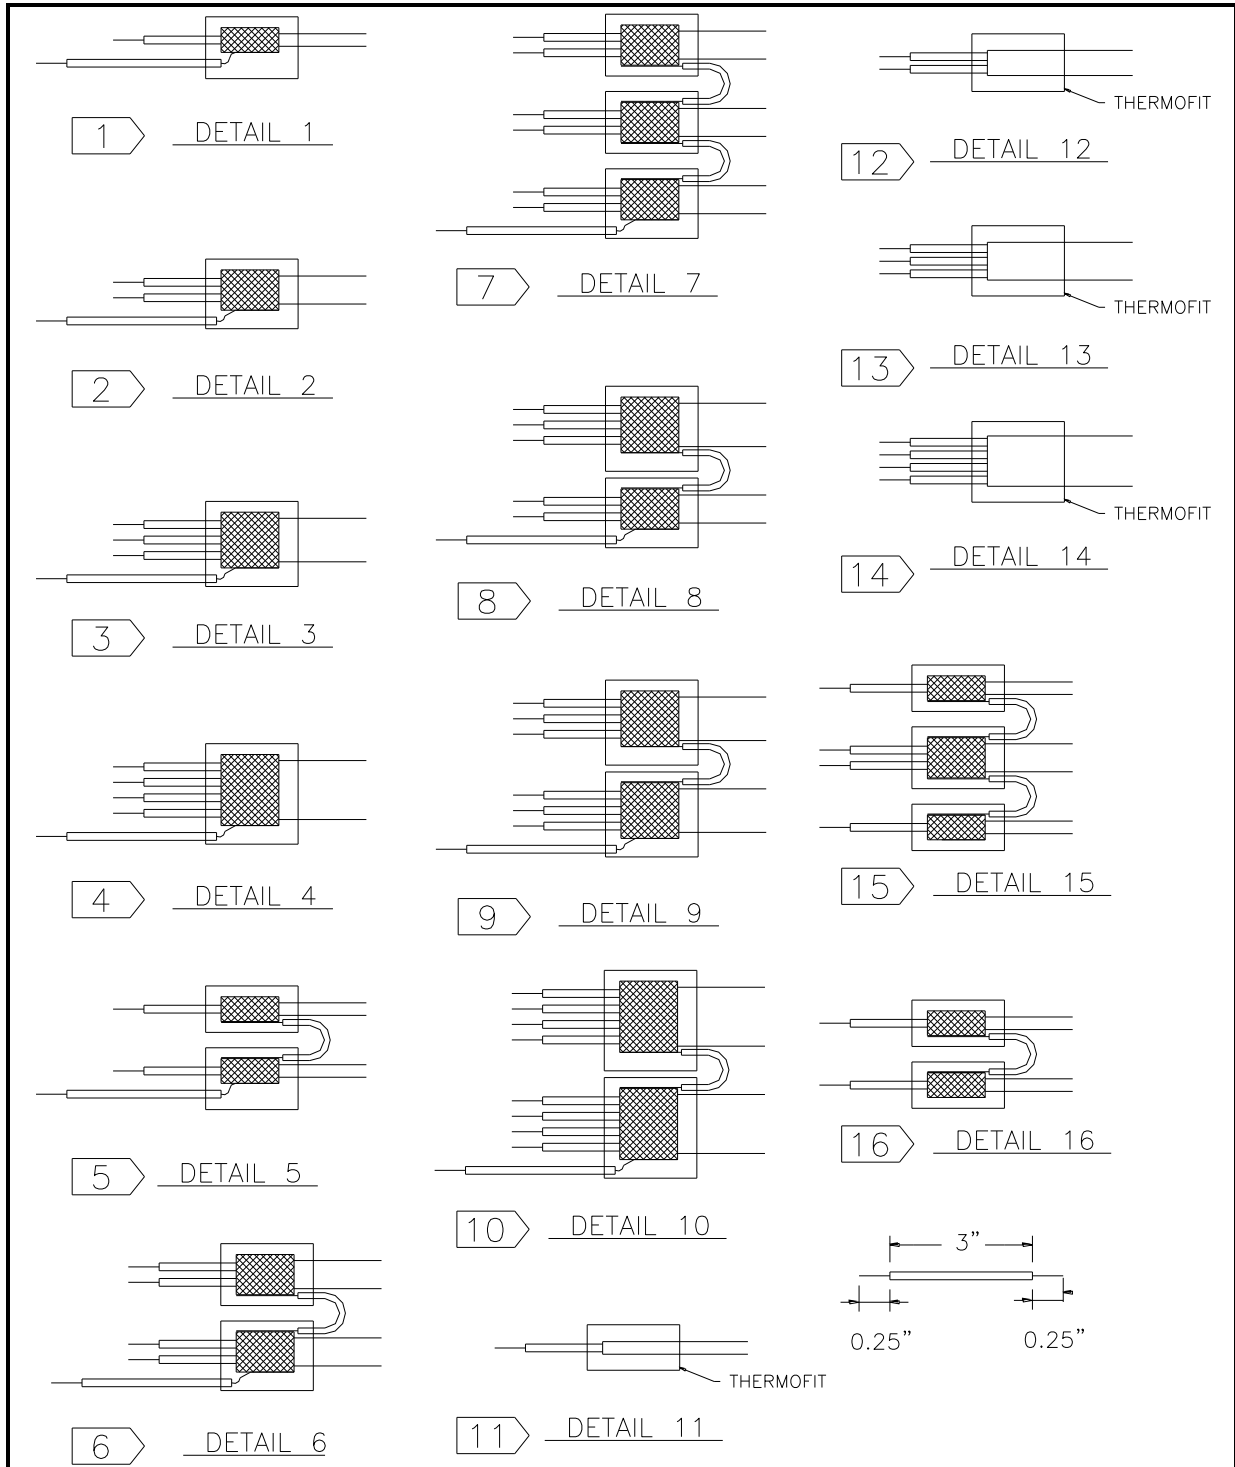

Figure 28: Cable Assembly Detail Wire Termination
- e.** If a cable needs to be repaired or replaced due to damage, refer to the appropriate cable drawing in Section 7.3. Refer to Figure 26 and Figure 27 to identify materials labeled on all cable drawings. Refer to Figure 28 through Figure 40 for all cable assembly details. All cables should be built utilizing proper aviation practices.